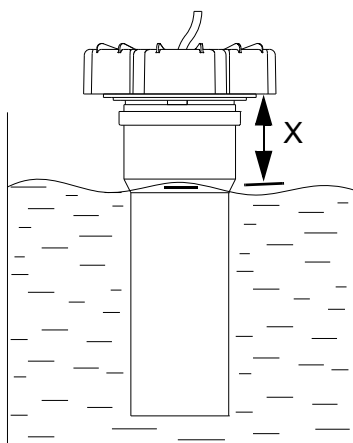

Fig. 18 Piezo sensor calibration
5. Make a mark on the sensor pipe below the top level, and enter the distance [X] (mm) from the top down to the mark. See fig. 18.